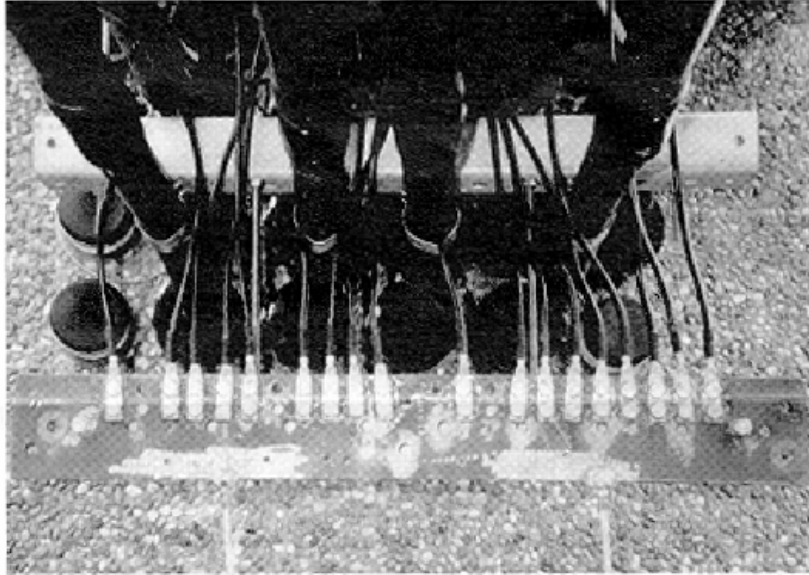

Figure D-5 Lightning protection grounding clip connected to outdoor grounding bar
- 6) The sealed lightning protection grounding clip can be connected to the outdoor grounding bar, as shown in Figure D-5, as well as to the well-grounded outdoor cabling rack. The grounding clip in Figure D-4 is connected to the outdoor cabling rack. When the lightning protection grounding clip is connected to the outdoor